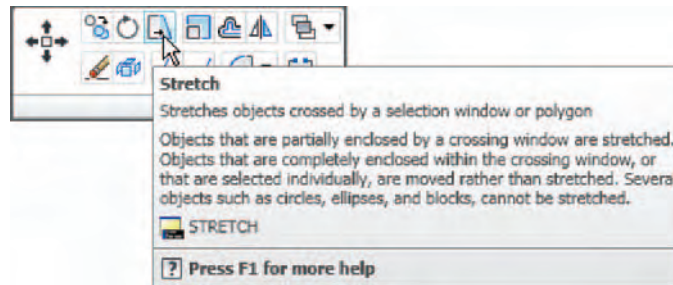

Fig. 5.33 The **Stretch** tool icon from the **Home/Modify** panel
2. Call the **Stretch** tool – *click* on its tool icon in the **Home/Modify** panel (Fig. 5.33), *left-click* on its tool icon in the **Modify** toolbar, *pick* its name in the **Modify** drop-down menu or *enter s* or *stretch* at the command line, which shows:
1. When circles are windowed with the crossing window no stretching can take place. This is why, in the case of the first example in Fig. 5.33, when the **second point of displacement** was *picked*, there was no result – the outline did not stretch.